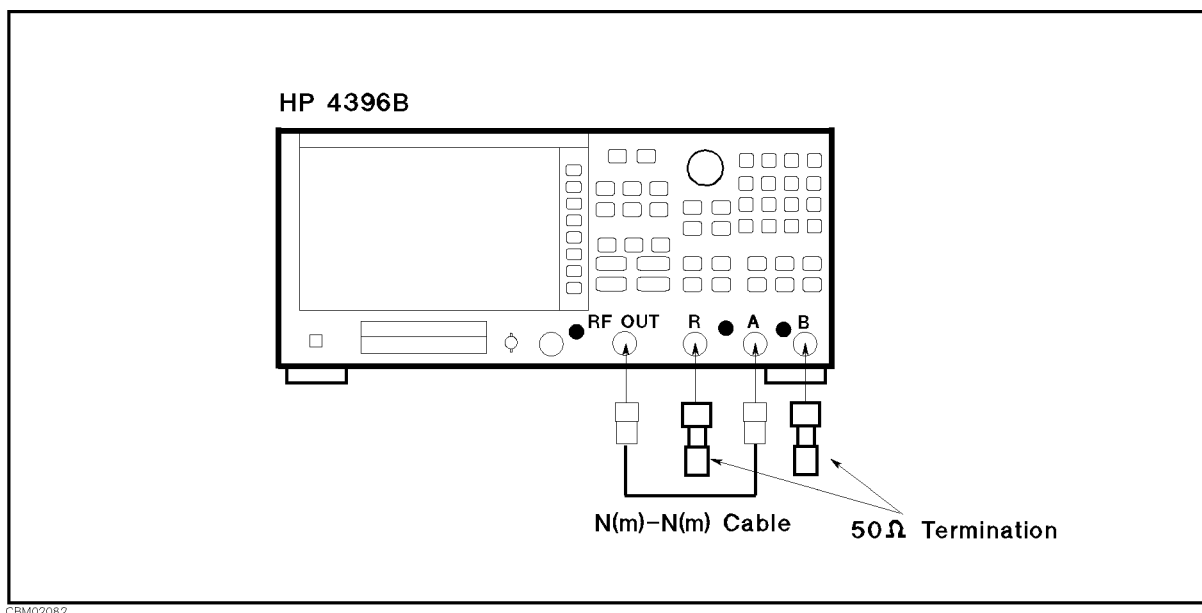

Figure 2-8. Input Crosstalk Test Setup 2
- b. Connect the test equipment as shown in Figure 2-8.